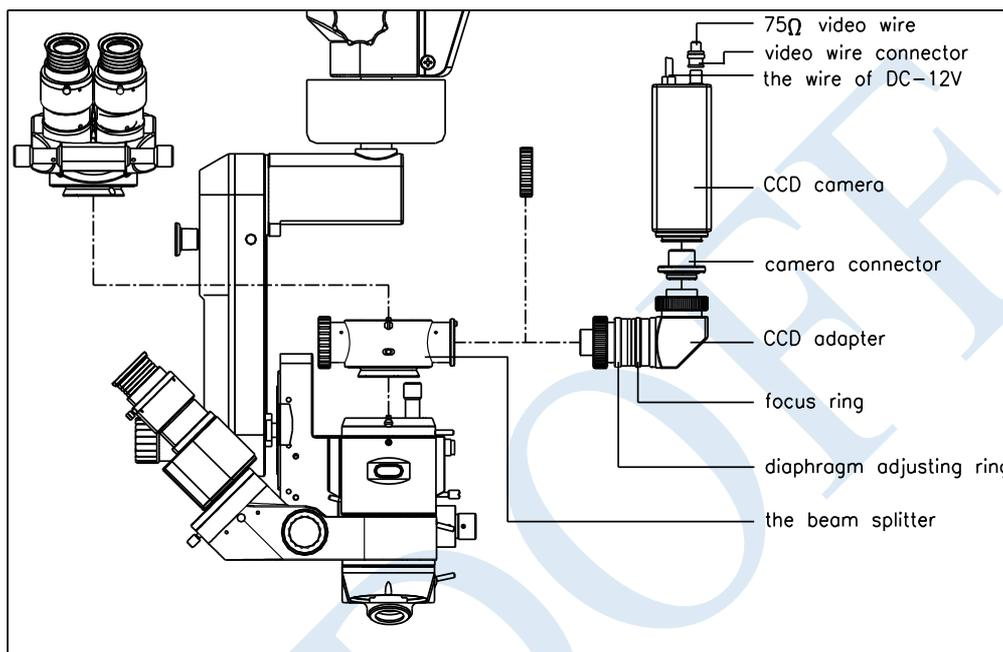

Fig.7
10. Finally fit the eyepiece to the beam splitter(indicated in Fig. 7).